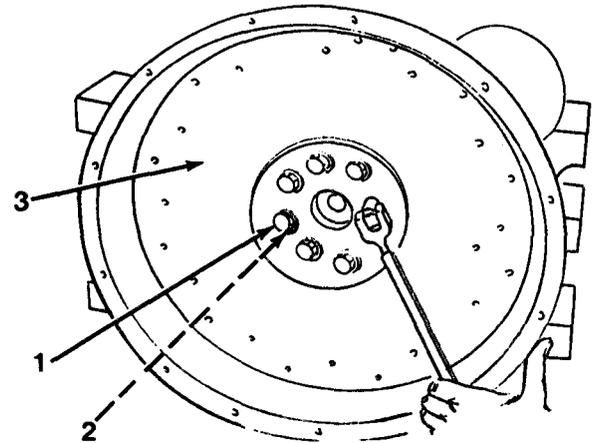

Figure 6-1
3. Using a 19 mm socket, remove eight capscrews (1), washers (2) and flywheel (3, Figure 6-1) from engine.